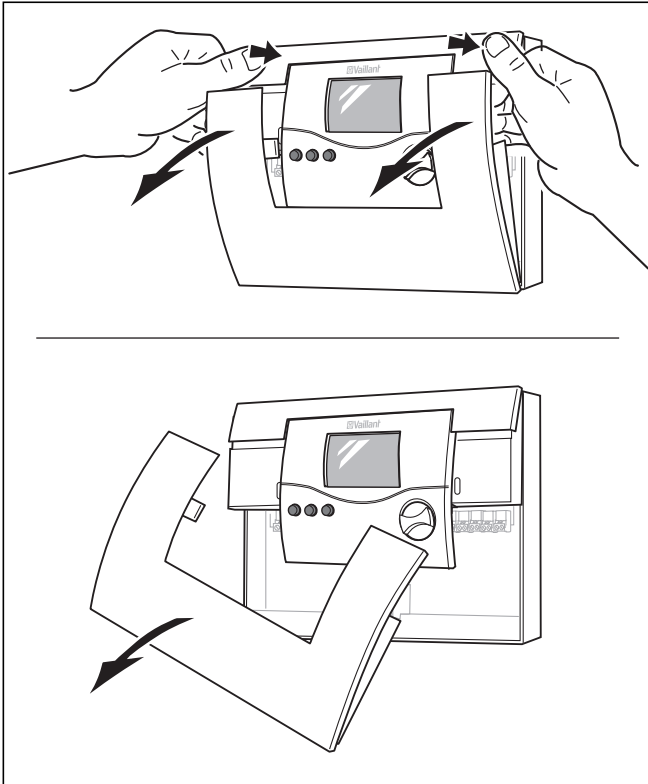

Fig. 4.2 Opening the controller housing
- As shown in Fig. 4.2, pull the lower front cover off of the controller housing.